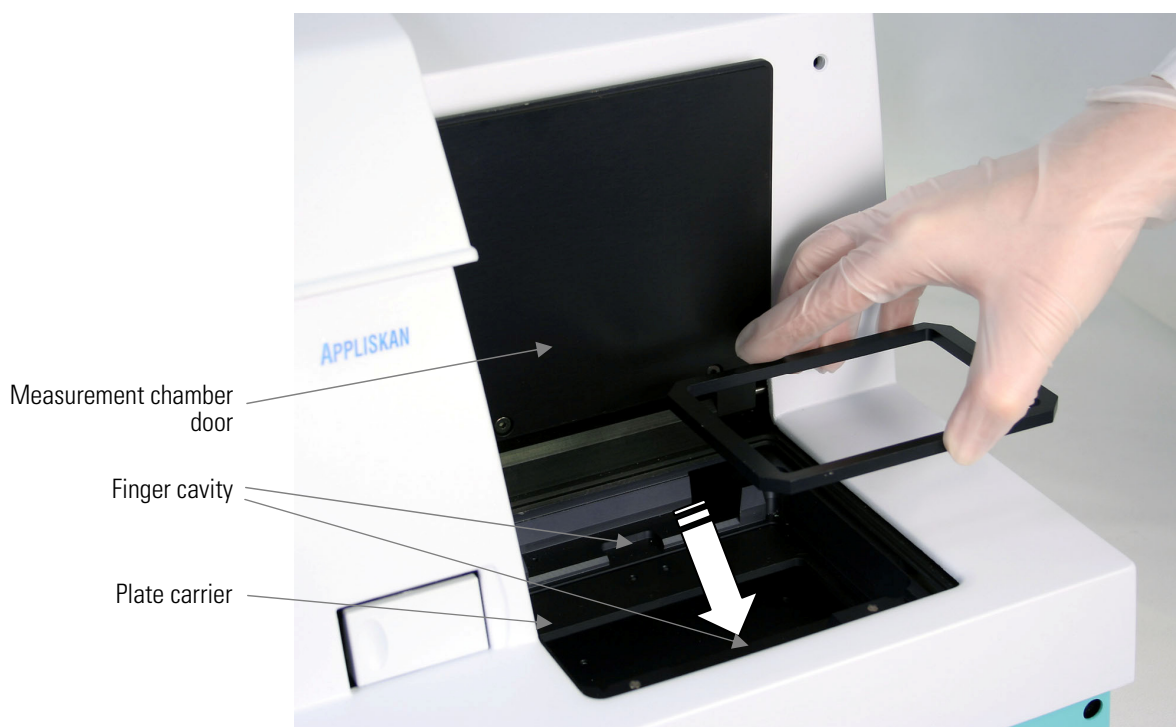

Figure 3–15. Inserting or removing the plate adapter
1. Always insert the plate adapter into the plate carrier when you are measuring SBS standard 96 or 384-well plates (Figure 3–15). It fits in either side since it is symmetrical. Use the rectangular finger cavities to easily insert the plate adapter.